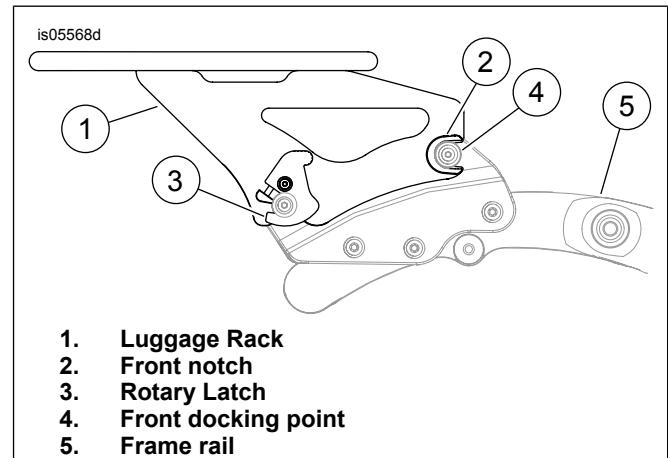
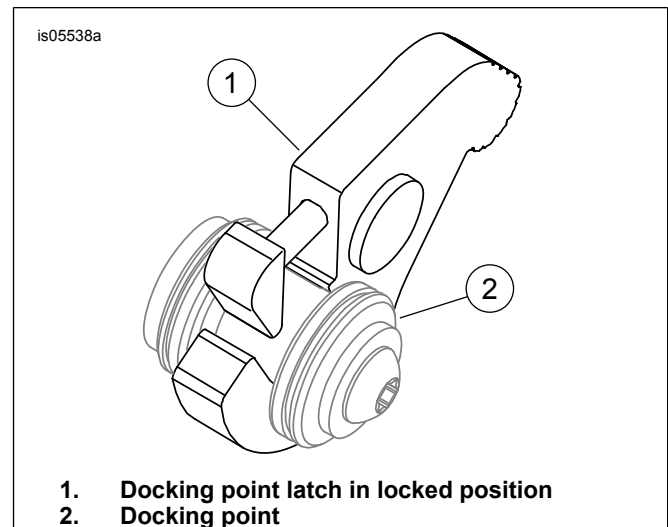

Figure 1. Luggage Rack
Figure 2. Latch and Docking Point
2. See Figure 1. While standing behind the motorcycle, place the rack side plate notches (2) into the forward docking points (4). Make sure the notches seat fully into the mounts.
3. See Figure 2. Position the rotary latches (1) over the rear docking points (2). Check the rotary latches fit into the neck of the rear docking points as shown. This may require some gentle squeezing or spreading of the side plates.
The docking points must be fully engaged. See Figure 1 and Figure 2 for correct engagement. If docking points are